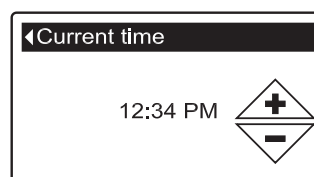

FIG. 33
5. Press the SELECT (O) button to display the Current time screen (See Figure 33).